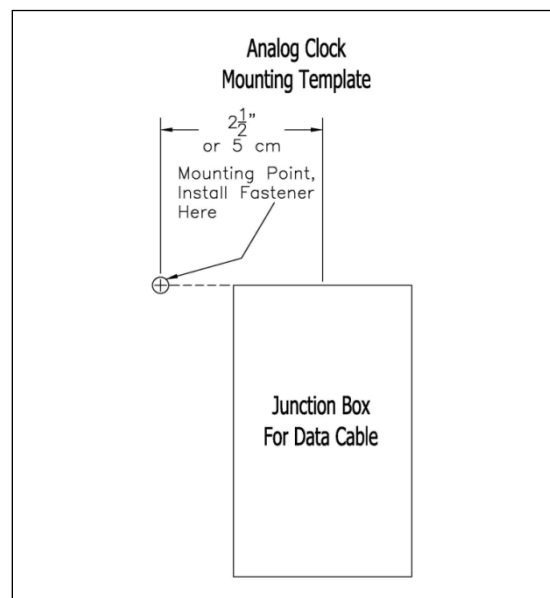

Figure 2: Analog Clock Mounting Template
3. Refer to Figure 2 to install the junction box for the data cable (if required) centered 2 ½" (5 cm) to the right of the Mounting Point.